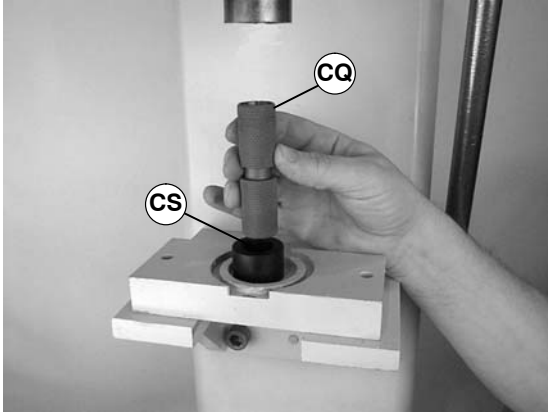

Figure 52
1. Orient bearing anvil/sleeve removal tool (part # 25-09☆) (CS of Figure 52) with cavity facing up and place pulley (CQ) onto tool.